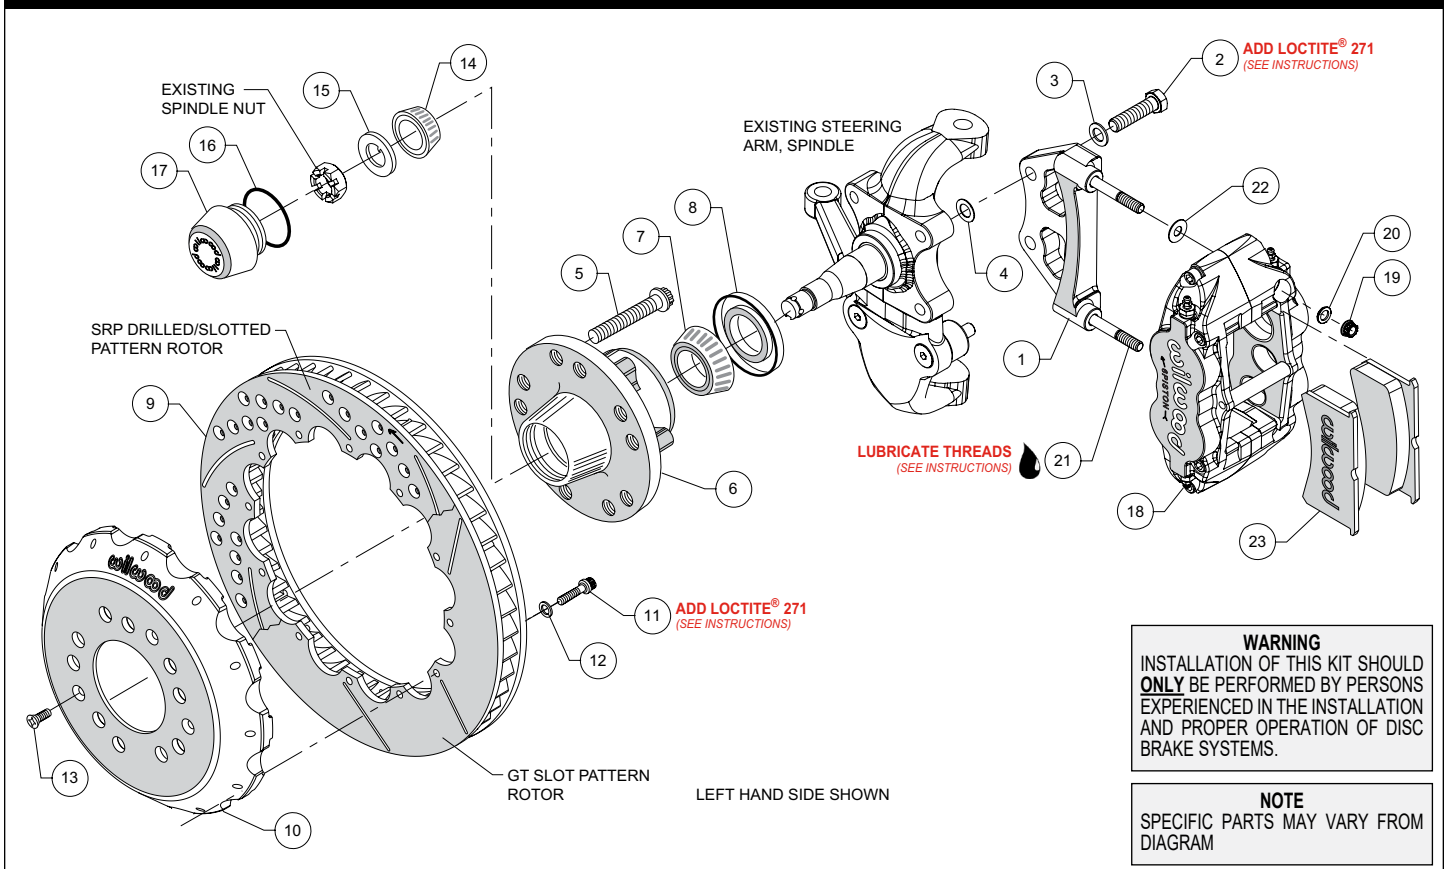
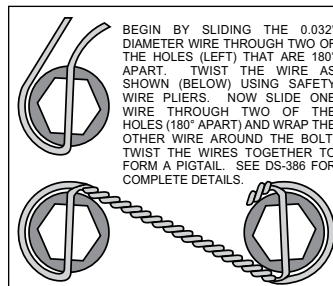

Figure 1. Typical Installation Configuration
Figure 3. Safety Wire Diagram
NOTE: Numbers in parenthesis refer to the parts list, and Figure 1 on the preceding pages.
- The caliper mount bracket (1) should initially be installed with clean, dry threads on the mounting bolts. Orient the bracket as shown in Figure 1, and install using bolts (2) and washers (3). Initially place one .032" thick shim (4) on each bolt between the bracket and upright, Figure 1 and Photo 1. Temporarily tighten the mounting bolts. **NOTE:** The bracket must fit squarely against the mount bosses on the upright. Inspect for interference from casting irregularities, machining ridges, burrs, etc. Later, after the caliper alignment has been checked, the mount bolts will be secured using red *Loctite*® 271.
- Pack the large inner bearing cone (7) with high temperature disc brake bearing grease (available from your local auto parts store) and install into the backside of the hub (6), Photo 3.
- Install the grease seal (8) by pressing into the backside of the hub (6), flush with the end of the hub, Photo 3.
- Orient the rotor (9) and the hat (10) as shown in Figure 1 and Photo 4. Attach rotor to hat using bolts (11) and washers (12). Apply red *Loctite*® 271 to the bolt threads and torque to 155 in-lb using a criss-cross pattern. For an added measure of security, the bolts may be safety wired using standard 0.032 inch diameter stainless steel safety wire as shown in Figure 3. Refer to Wilwood's data sheet DS-386 (available at www.wilwood.com/Pdf/DataSheets/ds386.pdf) for complete safety wire installation instructions.
- NOTE:** This kit contains distinct right and left hand calipers that must be mounted in a specific direction, as described below. Lubricate the caliper mounting studs (21) with lightweight oil. Initially place one .035" thick shim (22) on each stud between the caliper and the bracket, as shown in Figure 1 and Photo 7. Mount the caliper (18) onto the bracket (1) using lock nuts (19) and washers (20), Figure 1. Ensure that the caliper is mounted so the largest pistons are at the rotor exit end of the caliper, in relation to the direction of rotor rotation. Temporarily tighten the lock nuts and view the rotor through the top opening of the caliper. The rotor should be centered in the caliper, Photo 8. If not, adjust by adding or subtracting shims (4) between the bracket and the upright. Always use the same amount of shims on each of the two mounting bolts. Once the caliper alignment is correct, remove the bracket mounting bolts (2) one at a time, apply red *Loctite*® 271 to the threads, and torque to 90 ft-lb.